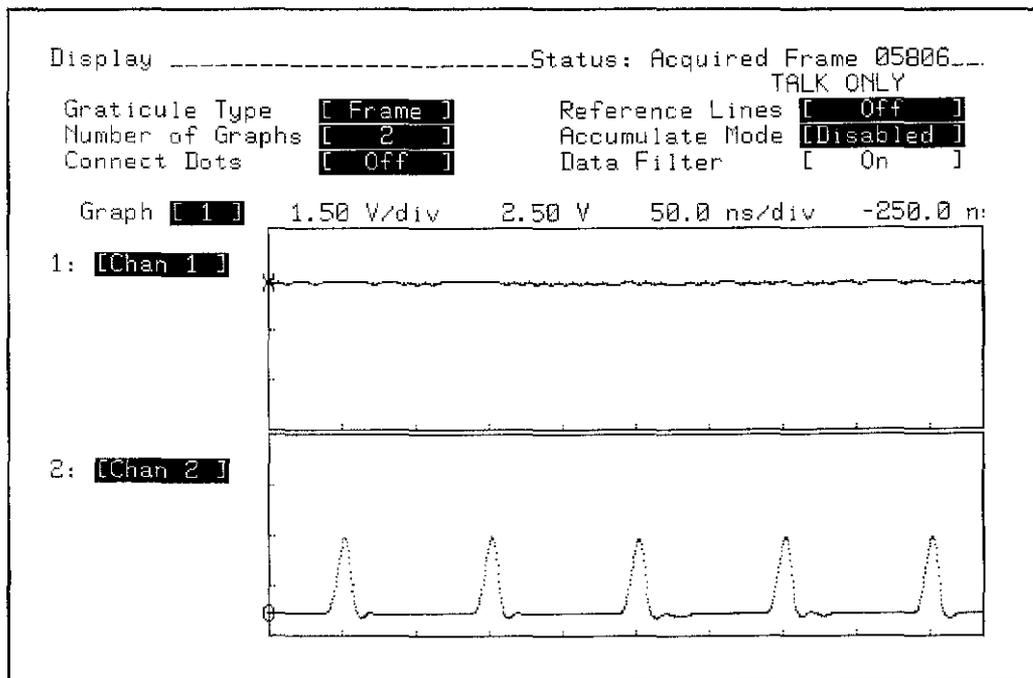

Figure 3-47. Threshold Accuracy Test Waveform
11. Exchange the BNC cables connected to Channel 2 and External Trigger inputs. The display should appear similar to figure 3-47.
13. Increase the output of the DC Supply until the Channel 2 pulses reappear as shown in figure 3-47. The DC Supply should read  $\geq 3.78$  V and  $\leq 4.22$  V.
24. Decrease the magnitude of the output level of the DC Supply in 0.01 volt steps until the Channel 2 waveform appears as shown in figure 3-47. The DC Supply should read  $\leq -3.78$  V and  $\geq -4.22$  V.